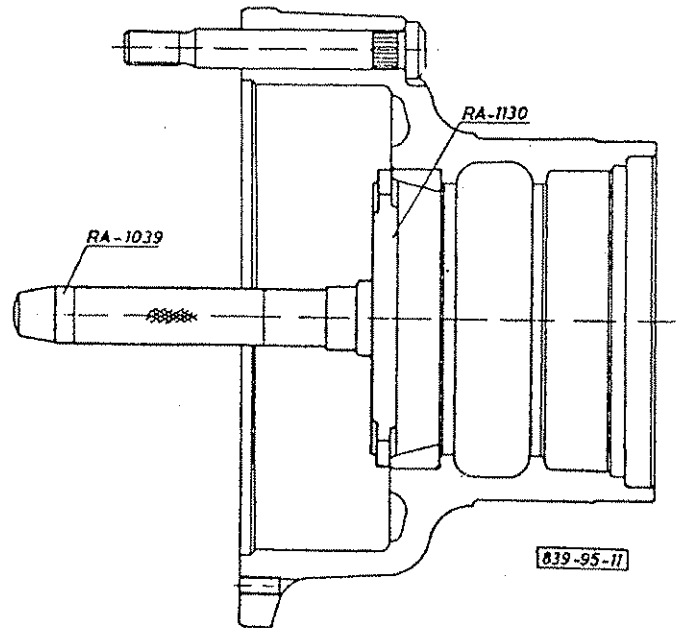

Fig. 2.: PRESSING IN THE CUPS OF THE TAPER ROLLER BEARINGS
By means of the tools shown in **Fig. 2**, press the cup of the outer taper roller bearing (34) into the wheel hub. Turn the wheel hub over and by means of the same tools press in the cup of the inner taper roller bearing (32), as well.